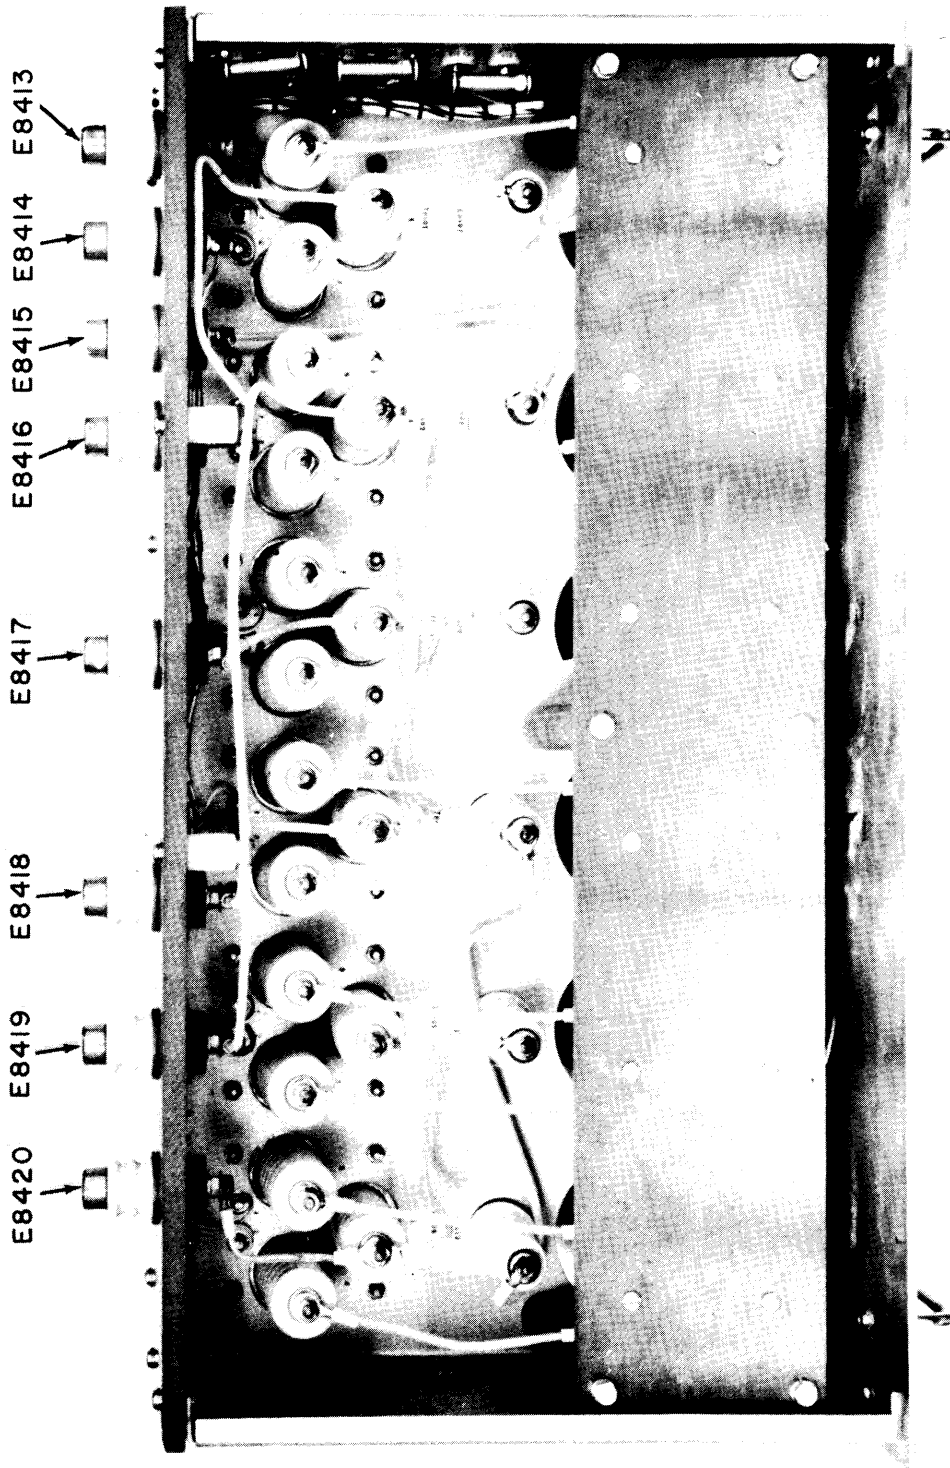

Figure 4-5-3. Bottom View with Callouts, High Voltage Rectifier Drawer, GPT-40K
b. LOCATION DATA. - Figure 4-5-3 shows bottom view, with callouts, of the high voltage rectifier drawer. See figure 4-1-11 in this part for top view.